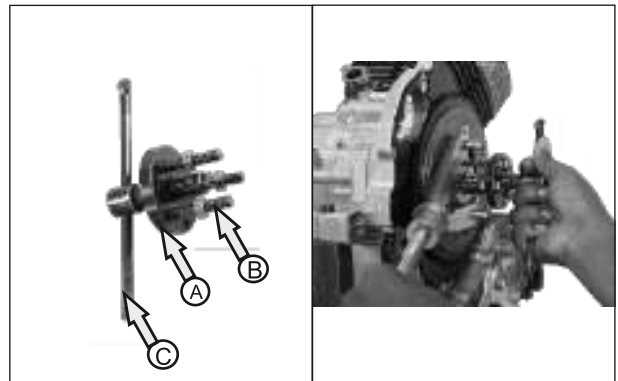

Fig. 1.8
- Insert 3 nos. of M8X50 bolts through circular plate (A) and tighten with magneto rotor. Tighten the centre bolt (B) magneto puller by using Tommy rod (C). (Fig. 1.8)